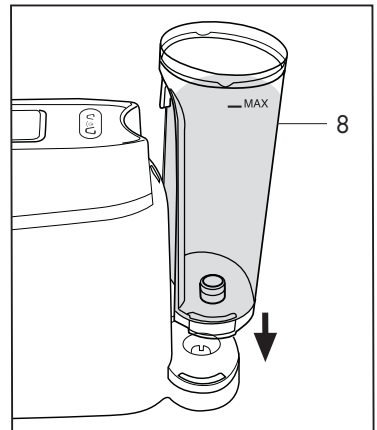

Fig. 3
- Close the cover and insert the tank (8) against the machine body so that the tab engages and the base of the tank rests correctly on the water valve. (**Fig.3**)